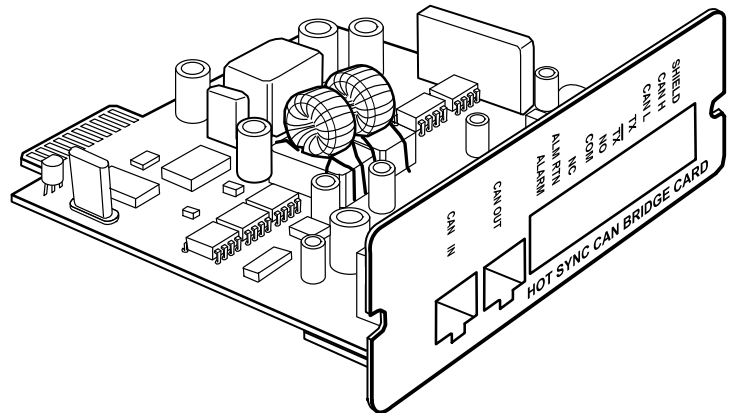

Figure 64. Powerware Hot Sync CAN Bridge Card
4. Unpack the Powerware Hot Sync CAN Bridge Card and verify that the card was not damaged during shipment (see Figure 64).